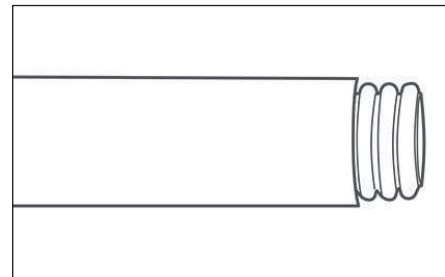

Figure: 4-6
- STRIP JACKET:** Using a utility knife with a sharp blade, strip back the jacket so that after making the final cut you will have THREE corrugation peaks left exposed for straight fittings and couplings and FIVE corrugations are left exposed for termination fittings. This is critical for the proper insertion of pipe into the fitting (**Figure 4-6**). Make a final cut using full circular rotations in one direction, gradually tightening roller pressure after each revolution until a clean cut is obtained. Avoid overtightening roller as this may flatten the crowns of the corrugations and interfere with a gas tight seal. Inspect the pipe for a clean cut without tears or distortion.